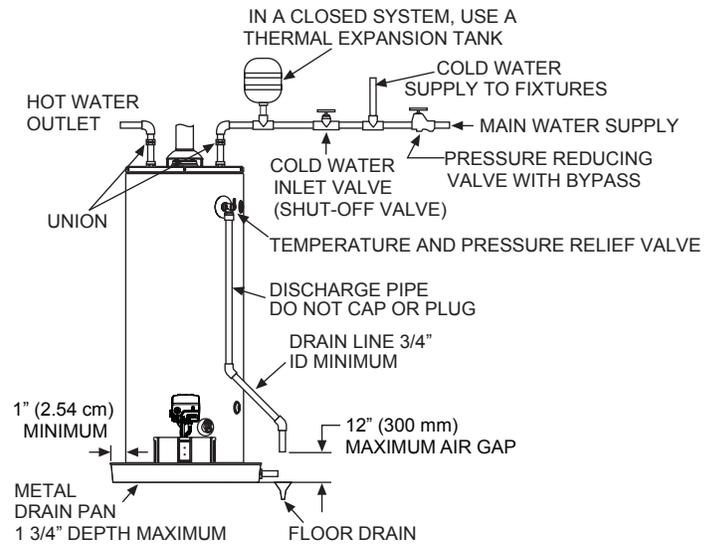

FIGURE 13
Piping, fittings, and valves should be installed according to the installation drawing (Figure 13). If the indoor installation area is subject to freezing temperatures, the water piping must be protected by insulation.
1. Install the water piping and fittings as shown in Figure 13. Connect the cold water supply (3/4" NPT) to the cold water inlet fitting. Connect the hot water supply (3/4" NPT) to the hot water outlet fitting.